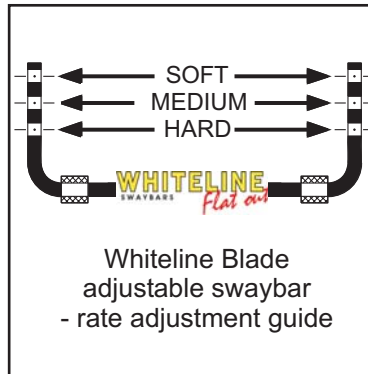

Figure 1. Rate adjustment guide.
11. Using M10x60 bolts, M10 washers and M10 nuts, attach new endlinks to the swaybar and control arm. Torque to 40Nm. Refer to figure 1 for swaybar adjustment guide.